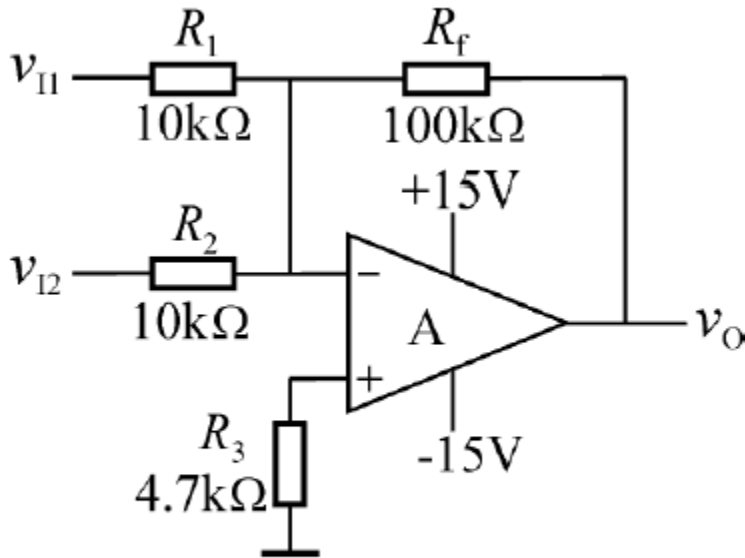

Figure 1 Summing amplifier
1. Fig. 1 –step 3 with grounded input.
2. Fig. 1 –step 4 with sine wave input